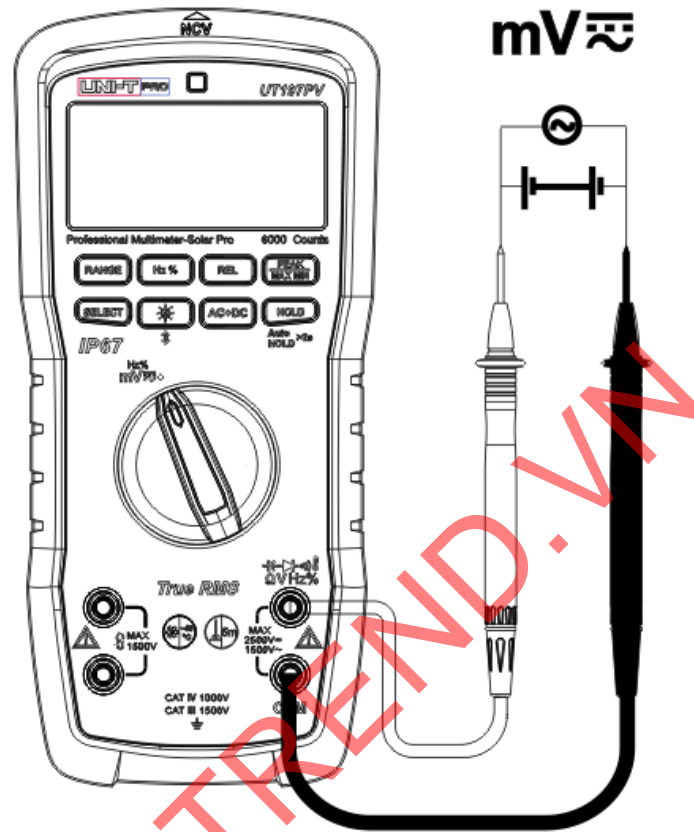

Figure 8
4. AC mV measurement (Figure 8)
5. DC mV measurement (Figure 8)